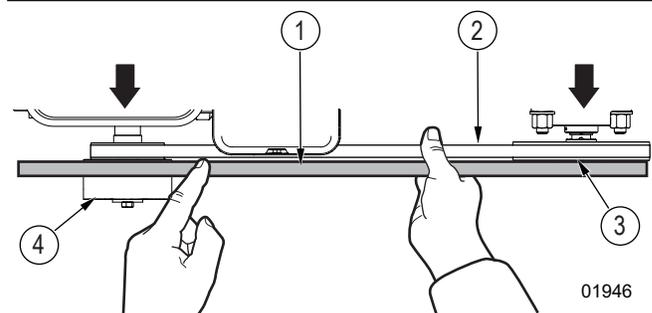

Fig. 27—Drive belt alignment
2. Place a straight edge along the inner face of the engine clutch and back side of the rotor sheave (*Fig. 27*). Check the space between the drive belt and the straight edge. The gap should be even along the length of the straight edge. See .